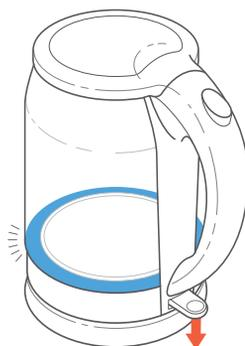

Figure 1.3
5. Press the **On/Off Switch**. The blue indicator light will turn on. [\[Figure 1.3\]](#)